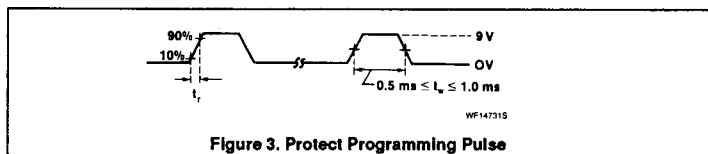

Figure 3. Protect Programming Pulse
- Step 2: Taking one pin at a time, apply a protect programming pulse (Figure 3) to each user—bus bit (UD0—UD7)—refer to Table 3 for Min/Max specifica-